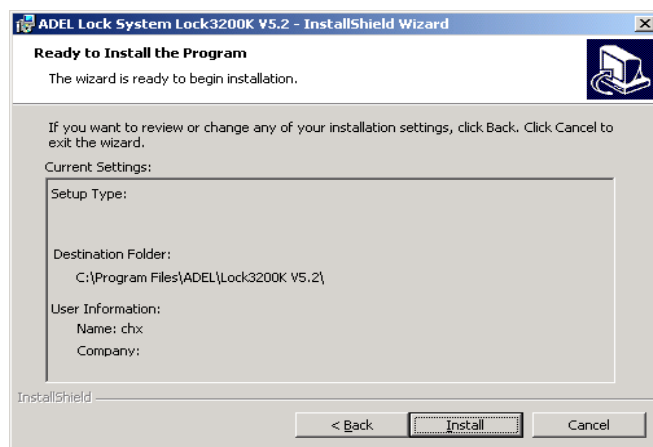

Figure 1-15
- 10) Select **Destination Path**. The default path is **C:\Program Files\Adel\Lock3200V5.2**. If you want to modify this path, click **Change** button. Click **Next** button to enter next page shown in Figure 1-15.